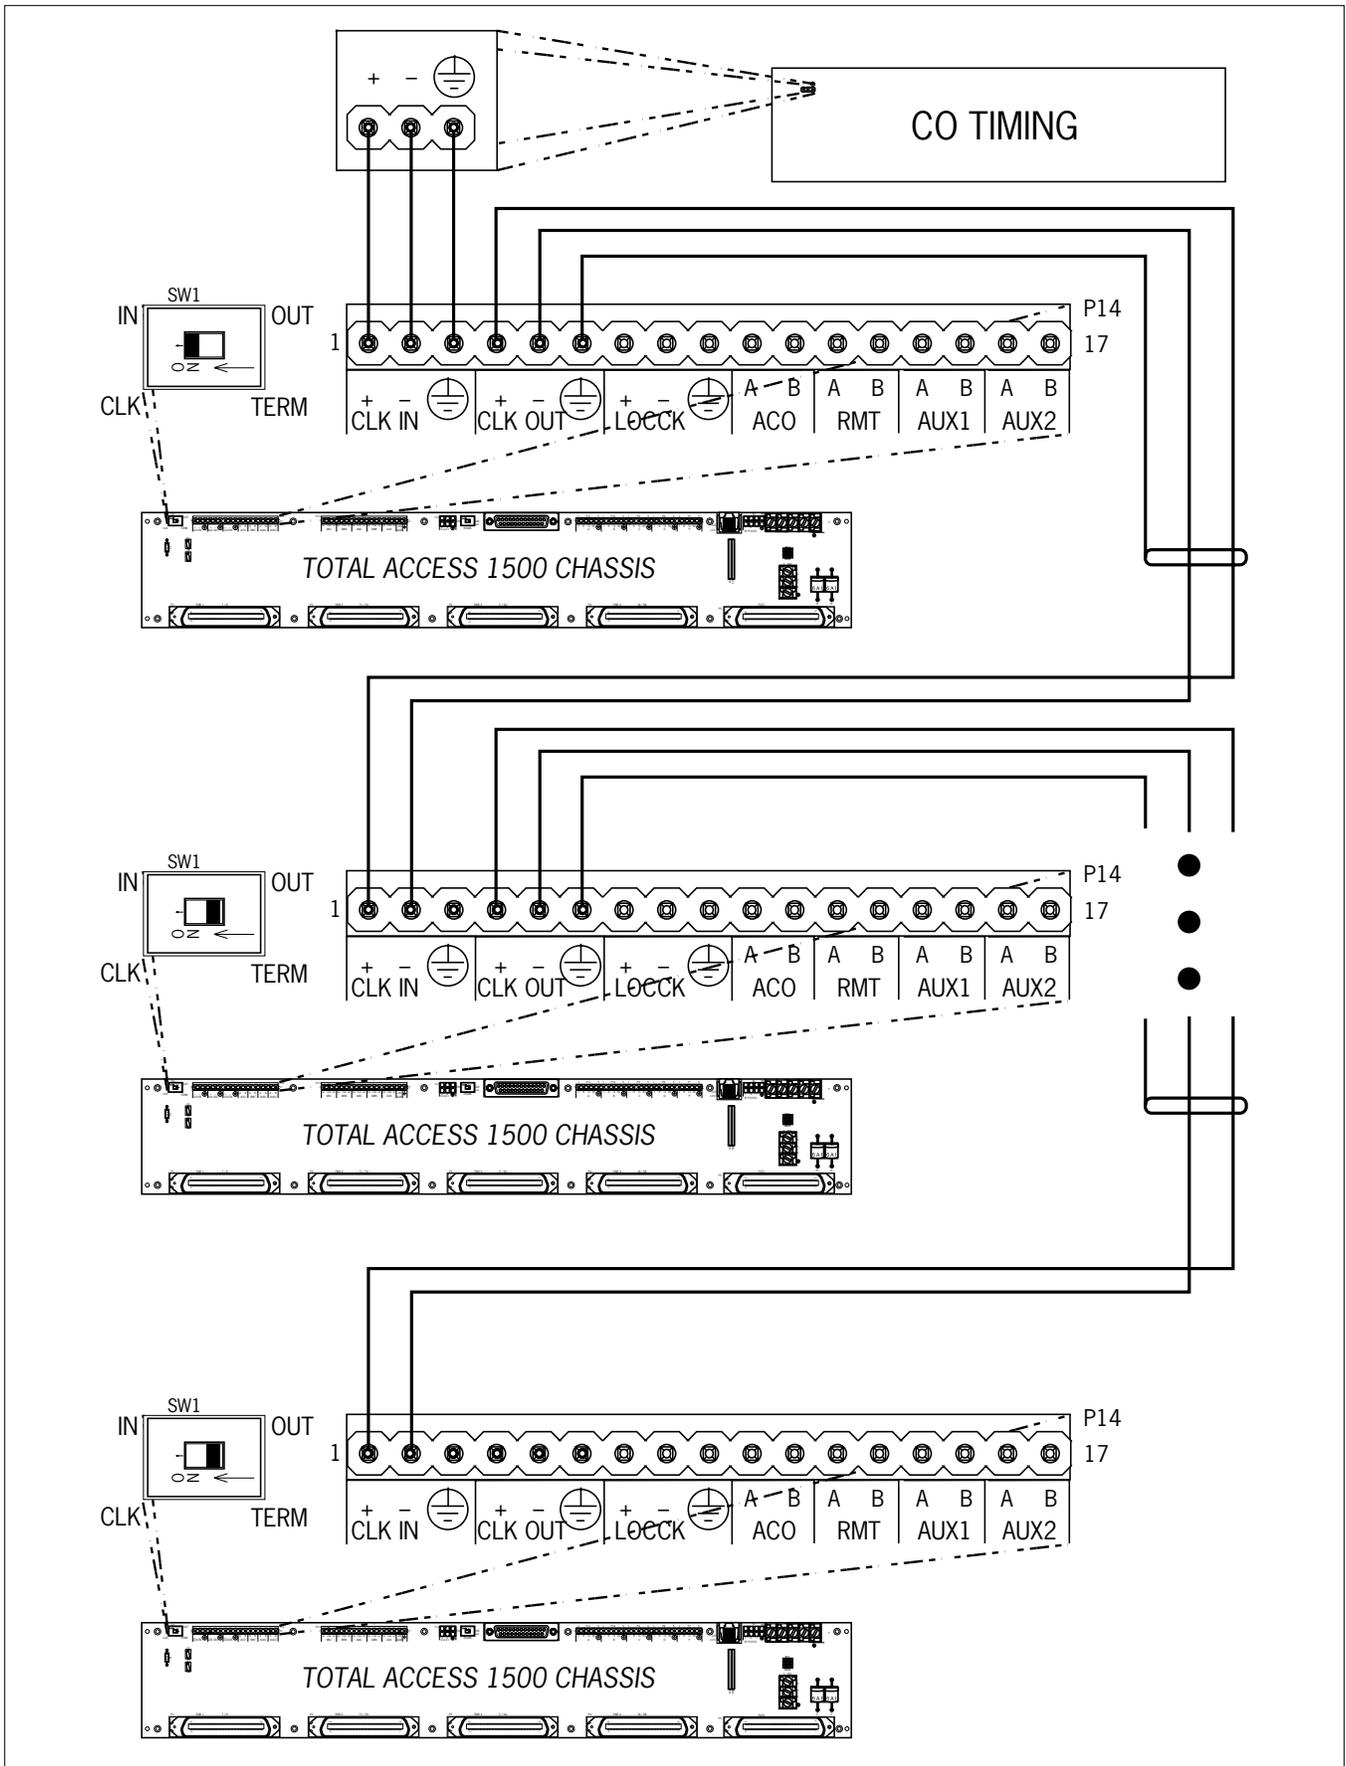

Figure 4. Composite Clock Wiring
4. Run the wire from P14 on the “source” shelf to connector P14, CLK IN, on the receiving shelf (See **Figure 4**).